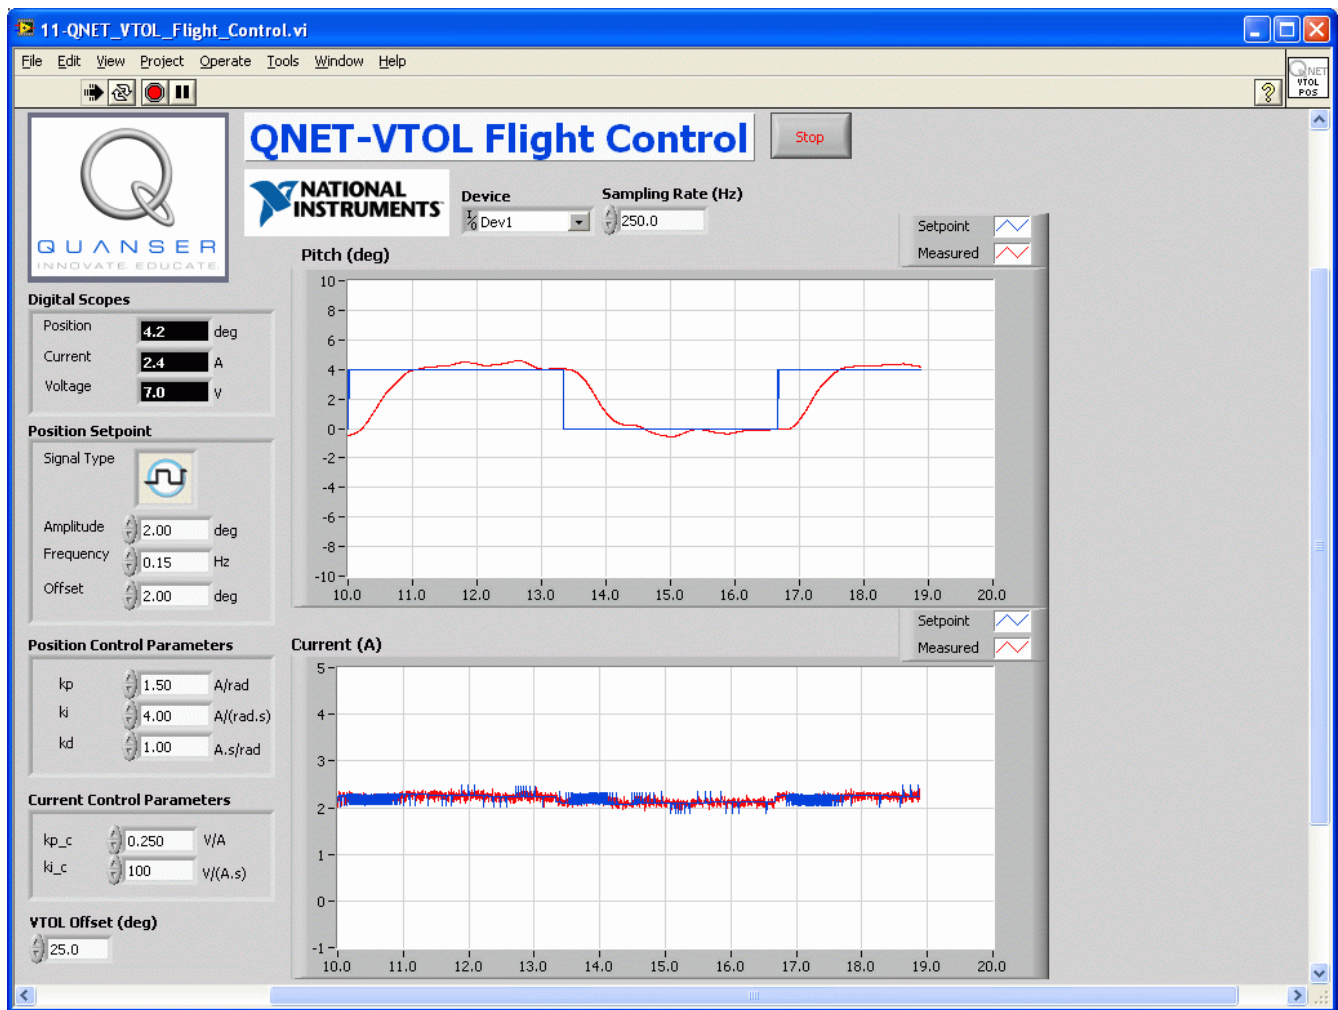

Figure 10: QNET-VTOL Flight Control VI.
2. Open the QNET_VTOL_Flight_Control.vi as shown in Figure 10, below.
- Open the QNET_VTOL_Flight_Control.vi as shown in Figure 10, above. Enter values in Table 8.